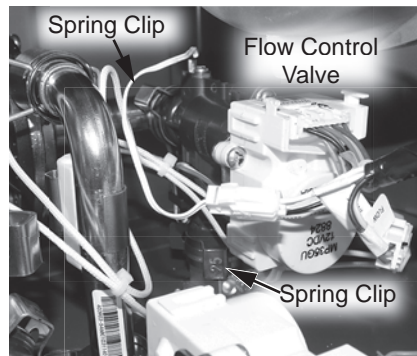

Figure 214 - Locating Flow Control Valve
17 Remove the two (2) spring clips (size 25) securing the flow control valve to the piping system. Place the spring clips aside in a safe place for reinstallation. See Figure 214.